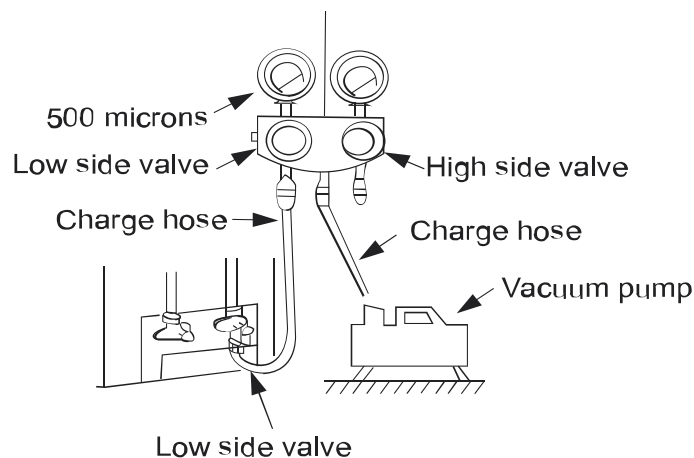

Fig. 14 —Manifold
3. Fully open the low side of manifold gage (see Fig. 14).